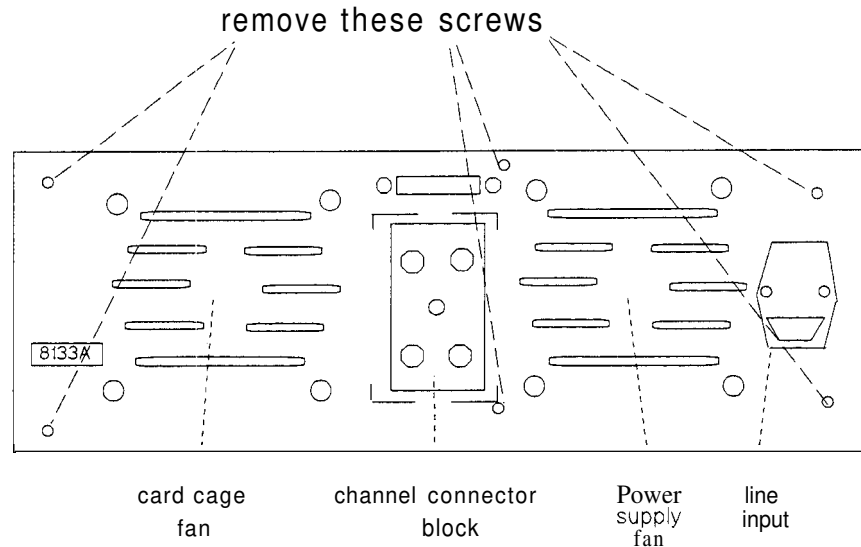

Figure 5-18. Rear panel removal
1. Remove the screws detailed in figure 5-18.